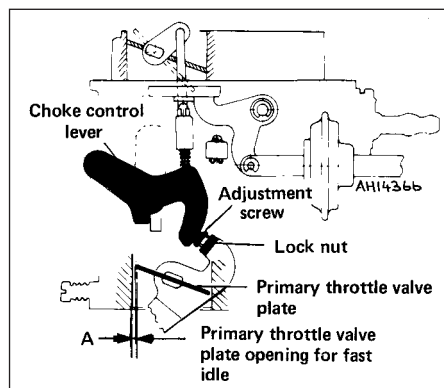

Fig. 3.25 Fast idle adjustment diagram
7 Close the choke valve plate fully and check the gap (A) (Fig. 3.25) between the edge of the throttle valve plate and the carburettor throat. The gap should be between 0.90 and 0.95 mm (0.035 and 0.037 in), a twist drill is useful for measuring this.